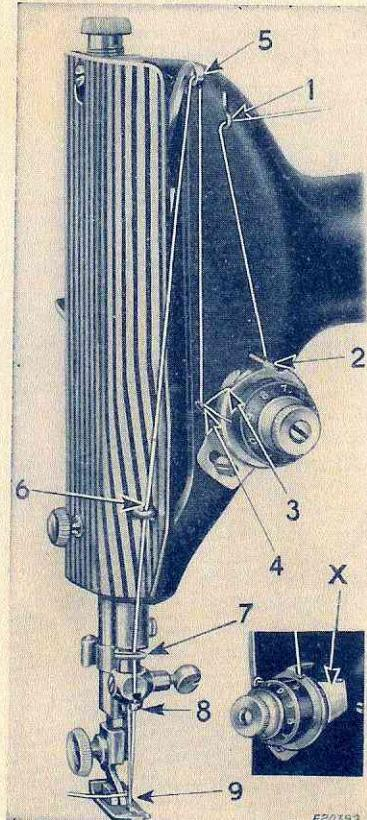
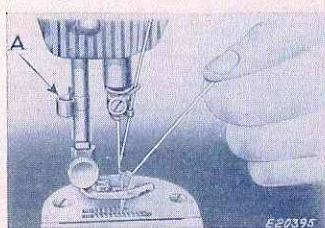
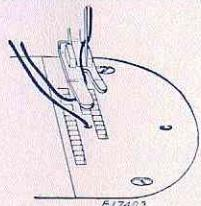

FIG. 12. UPPER THREADING
FIG. 13. DRAWING UP BOBBIN THREAD
FIG. 13A. THREADS IN POSITION TO COMMENCE SEWING
(SEE FIG. 12)
Turn the balance wheel over toward you until the thread take-up lever (5) is raised to its highest position. Place the spool of thread on the spool pin at the top of the machine and pass the thread to the left through the thread guide (1), down, under and from right to left between the tension discs (2), the thread guard (X) guiding the thread between the discs. (See insert in Fig. 12). With the right hand, hold the spool to prevent it from turning, and, with the left hand, draw the thread up into the take-up spring (4) until the thread enters the retaining fork (3), then pass the thread from right to left through the hole in the thread take-up lever (5), down through the guide (6) on the face plate, into the wire guide (7) on the needle bar bushing, into the guide (8) on the needle clamp and **from right to left** through the eye (9) of the needle.
up with it through the hole in the throat plate, as shown in Fig. 13. Lay both threads back under the presser foot diagonally across the feed, as shown in Fig. 13A, to the right or left, depending upon which side of the needle the material is to be located, so that when the presser foot is lowered, the threads will be firmly held between the feed and the presser foot.
Stop the machine with the thread take-up lever (5, Fig. 12) at its highest position, raise the presser foot and draw the fabric back and to the left, pass the threads over the thread cutter (A, Fig. 13) and pull down lightly to sever them. Leave the ends of the threads under the presser foot.